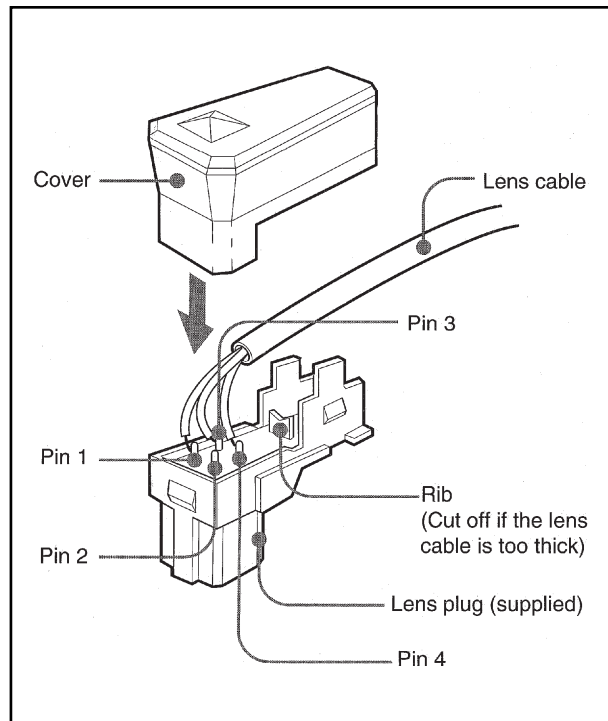

Figure 5. Auto-Iris Lens Plug Assembly
5. If you have an auto-iris lens, replace the plug on the lens cable with the plug that is supplied (refer to Figure 5).